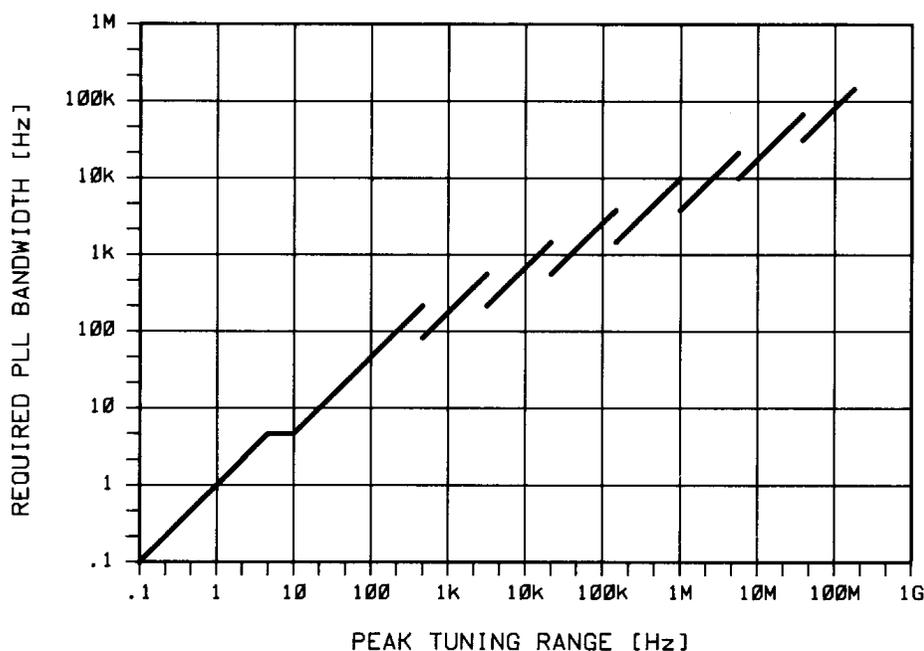

Figure 6-11 *Graph of Phase Lock Loop Bandwidth Provided by the Peak Tuning Range*
2. Estimate the Phase Lock Loop (PLL) bandwidth for the measurement using the PTR of your VCO and the graph in Figure 6-11 on page 6-21.